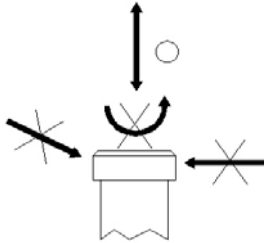

Fig. 3
- 3) Rotate the SENSING HEAD is prohibited. Some certain angles between SENSING HEAD & measuring object are not allowed ( ref. Fig. 3 ).